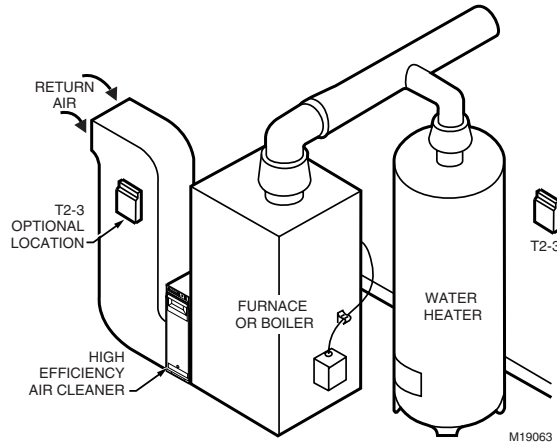

Fig. 2. TZ-3 mounting location.
3. Mount the TZ-3 zone panel near the HVAC equipment; locate it on a wall or on the cold-air return. See Fig. 2.